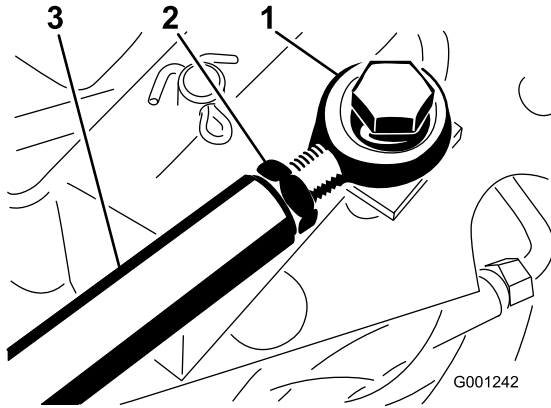

Figure 77
If traction pedal requires more adjustment, adjust the traction rod (Figure 77) as follows:
2. Loosen the jam nut that secures the rod end to the traction rod (Figure 77).
4. Tighten the jam nut (Figure 77) and secure the rod end to the traction pedal with the bolt and nut removed to lock the angle of the foot pedal.